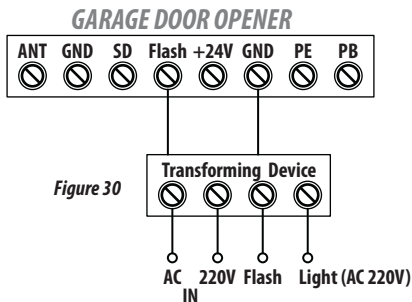
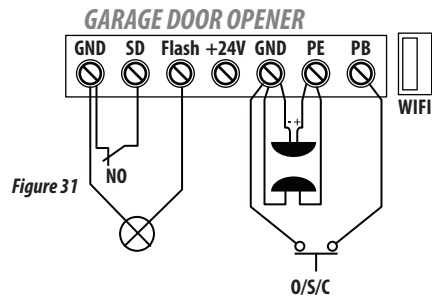

Figure 30
Figure 31
2. Flash light function. (Fig. 30, Fig. 31)
3. Pass door (SD) protection (Fig. 30, Fig.31)
4. External power supply (BAT) and antenna (ANT), WIFI port.(Fig.31)